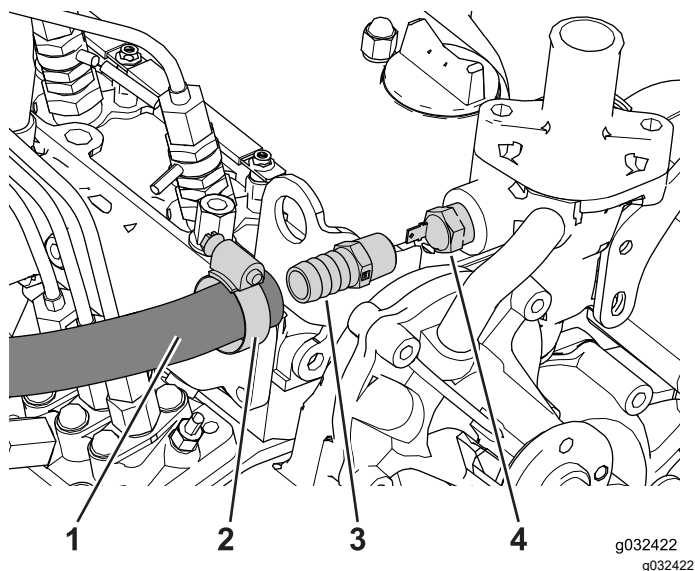

Figure 20
2. Locate, disconnect, and remove the temperature sensor (Figure 20).
6. Slide the hose clamp over the hose end (Figure 20).
7. Insert the hose over straight fitting and secure it with the hose clamp (1/2 to 1-1/4 inches) as shown in Figure 20.